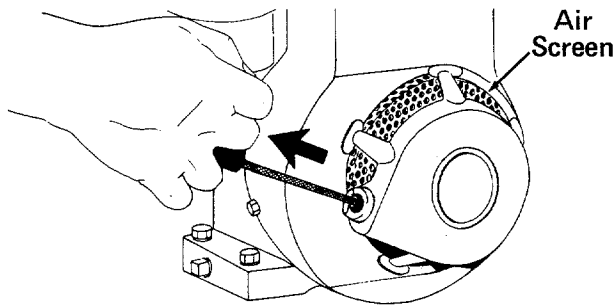

FIGURE 8.
3. Grasp starter handle (see figure 8) and pull rope out slowly until engine reaches start of compression cycle (rope will pull slightly harder at this point). Let the rope rewind slowly.